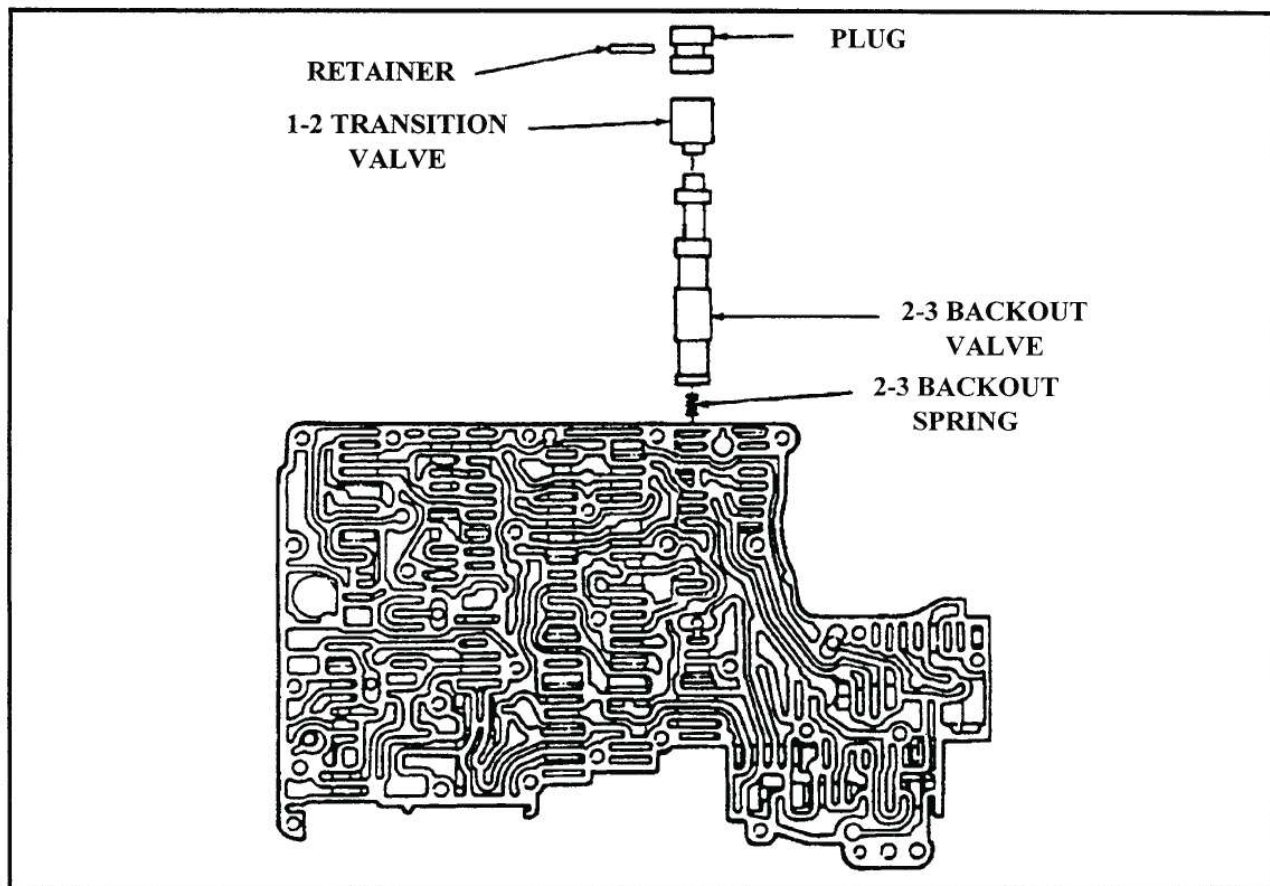

Figure 77
**CORRECTION:** A new 2-3 backout valve spring is available from Ford that has a revised calibration. It is light blue in color. See Figure 77 for proper bore identification and spring location.